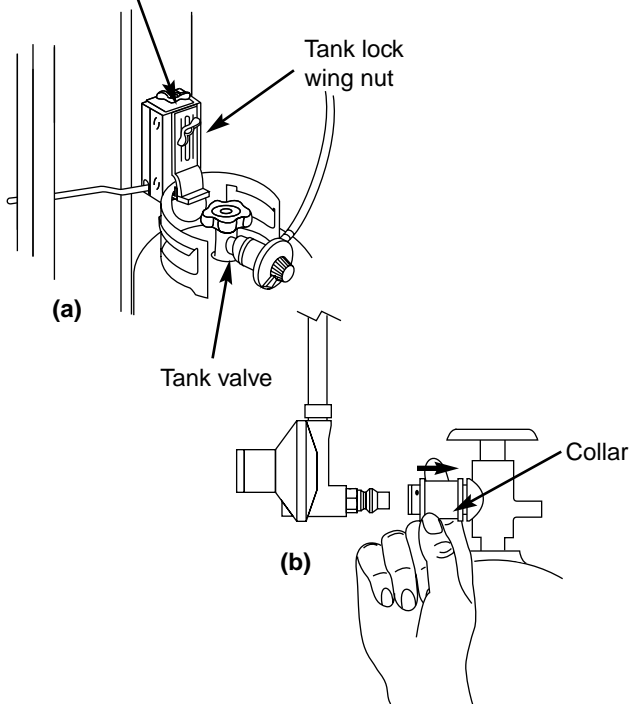

Figure 5
- 1) Close tank valve (turn clockwise). Figure 5 (a).
- 2) Unscrew regulator coupling by hand. Figure 5 (b).